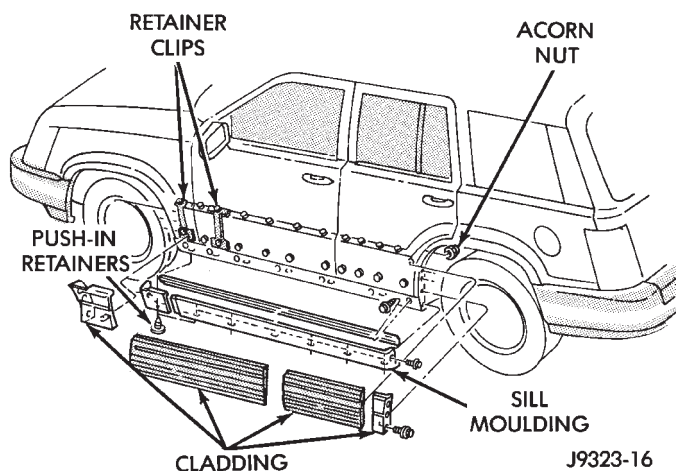

Fig. 25 Body Side Cladding
(1) Using a trim stick, gently lift up from bottom of cladding. Unsnap molding from retaining clips (Fig. 25)
(2) Lift upward and remove molding.
- (1) Open rear door.
- (2) Remove acorn nut at rear dogleg (Fig. 25).
- (3) Using a trim stick, gently lift up from bottom of cladding. Unsnap molding from retaining clips.